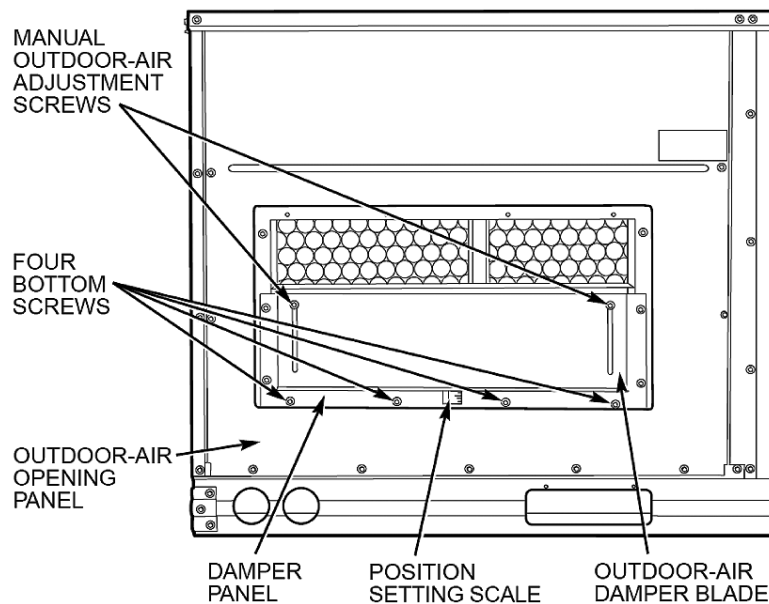
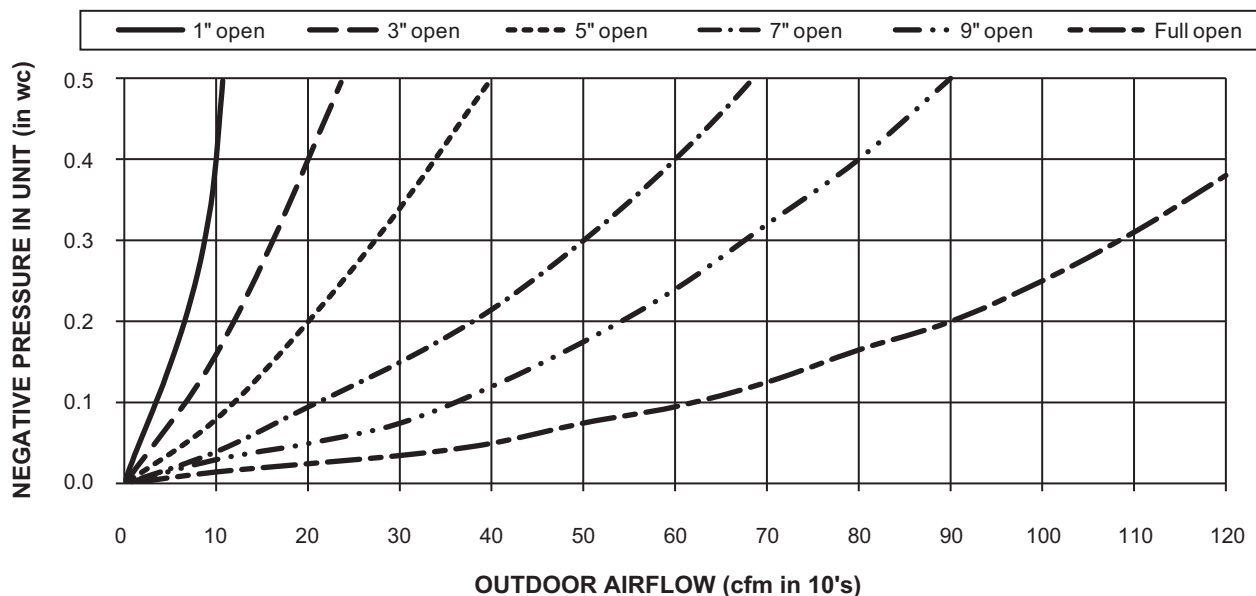

Fig. 4 - Damper Panel Installed — 001A and 002A Series
Fig. 5 - Outdoor-Air Intake Position Setting — 001A Series
5. Attach damper panel with outdoor-air damper blade to outdoor-air opening panel provided as shown in Fig. 4. Do not insert side screws at this time. Secure panel using 4 screws provided on the bottom. (See Fig. 4.)
6. Adjust minimum position setting of the outdoor damper blade by adjusting screws on the front of the blade. (See Fig. 4.) Slide blade vertically until blade is in the position determined by Fig. 5 or 6. Tighten screws.